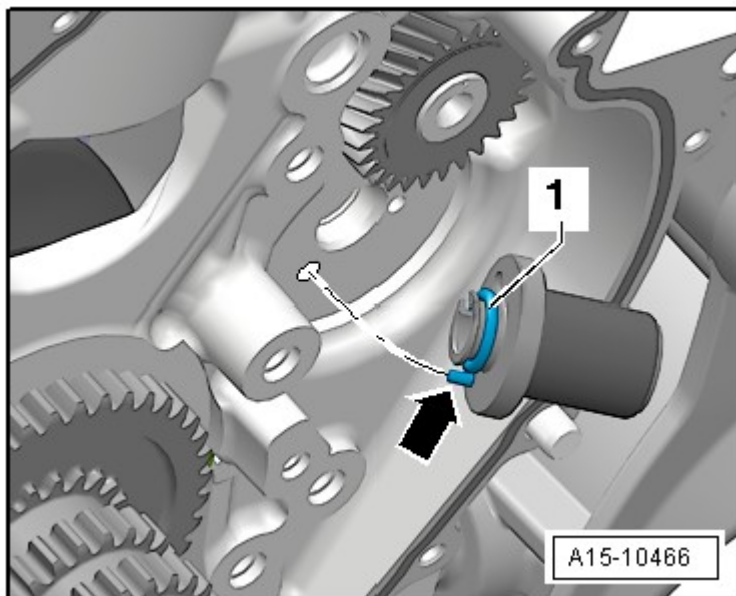

Fig. 11: Identifying Bearing Pins, Installation Position
- Installed location, refer to **Fig. 11**